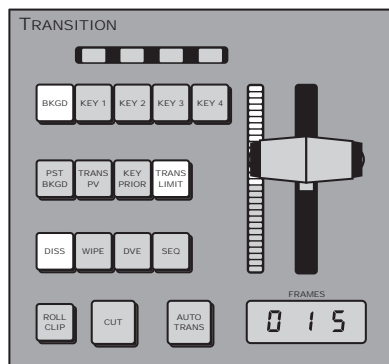

Figure 5.27 Transition Limit — Transition Module (4-Keyer Shown)
4. Press **TRANS LIMIT** on the **Transition Module** (**Figure 5.27**) to select the current point in the transition as the transition limit. There is no visual feedback that the transition limit point has been set.